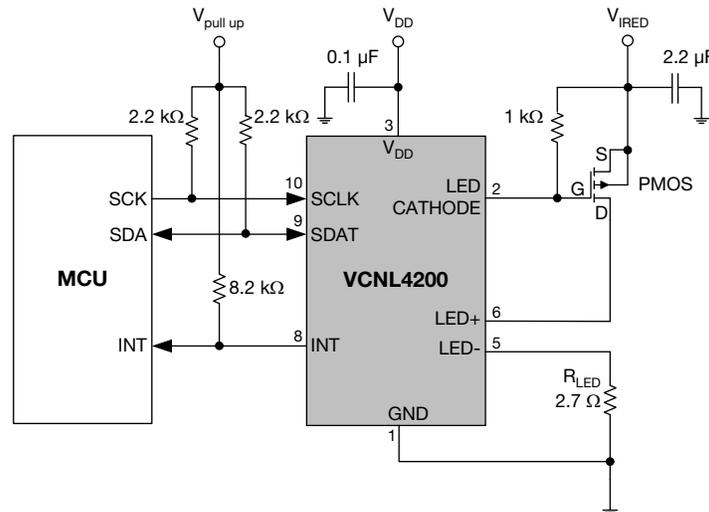

Fig. 11 - Application Diagram
- (1) Light source: white LED
- (2) Maximum detection range to ambient light can be determined by ALS refresh time adjustment. Refer to table 17 "ALS Resolution and Maximum Detection Range"
- (3) Based on IRED on / off duty ratio = 1/160, 1/320, 1/640, and 1/1280. The circuitry should use an external MOSFET as shown with Fig.11. Please see also the Application Note "Designing the VCNL4200 into an Application" (www.vishay.com/doc?84327)